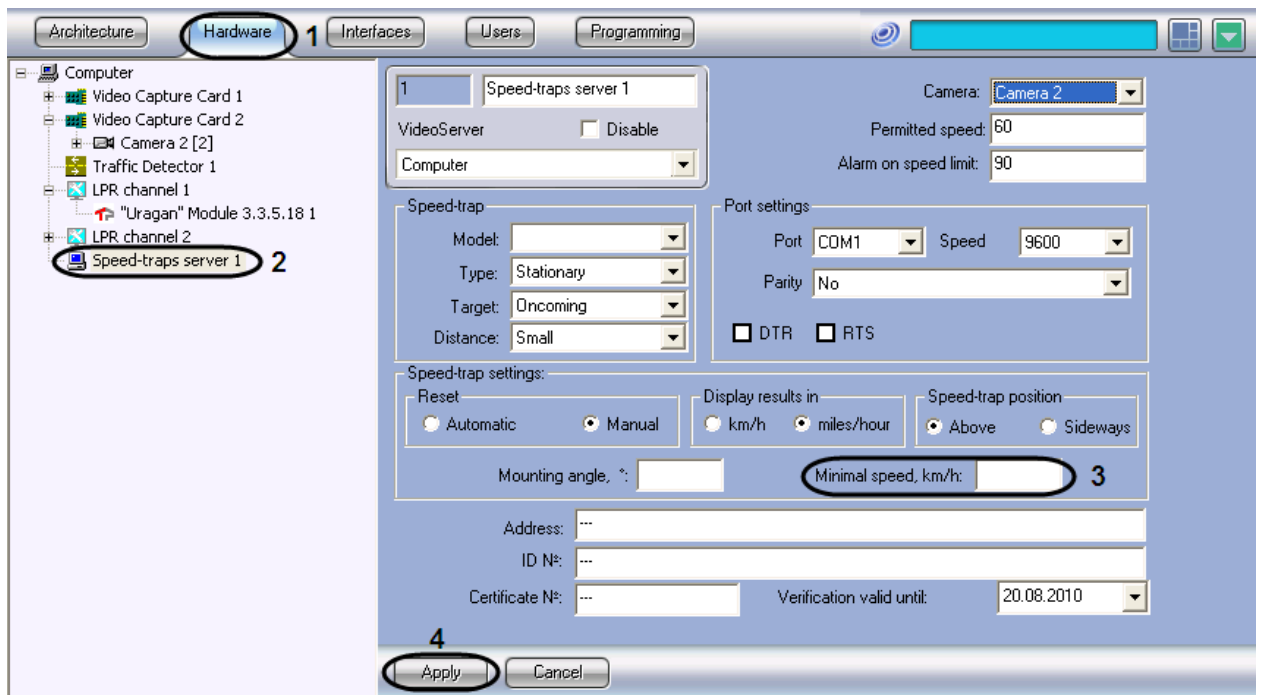

Fig. 7.3-12 Setting the minimum detectable vehicle speed
2. In the object tree on the left side of the Hardware tab, select the Speed-trap server object representing the Radar module to be set up. The settings panel of the selected object will open on the right side of the window (see Fig. 7.3-12).